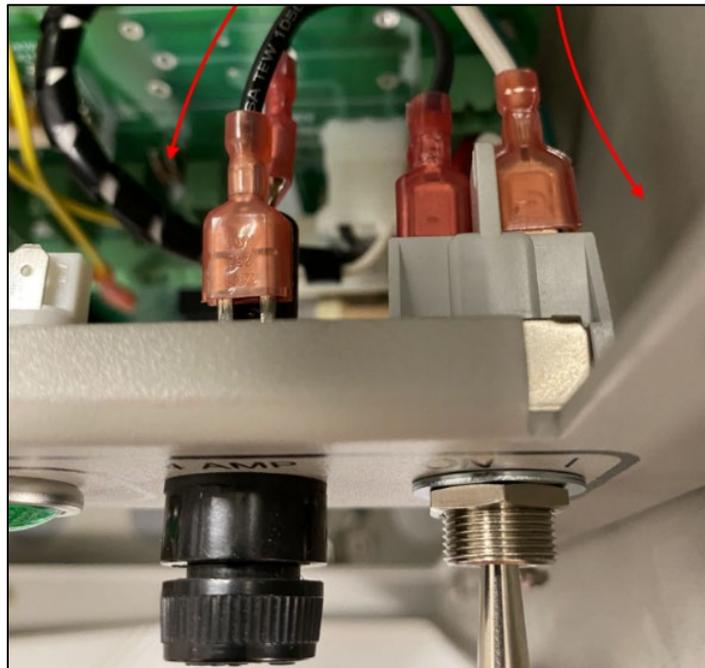

Figure 15 Inserting the Quick-Connect
- Plug the Power Conditioner's white quick-connect into the back of the new power switch (Figure 15).